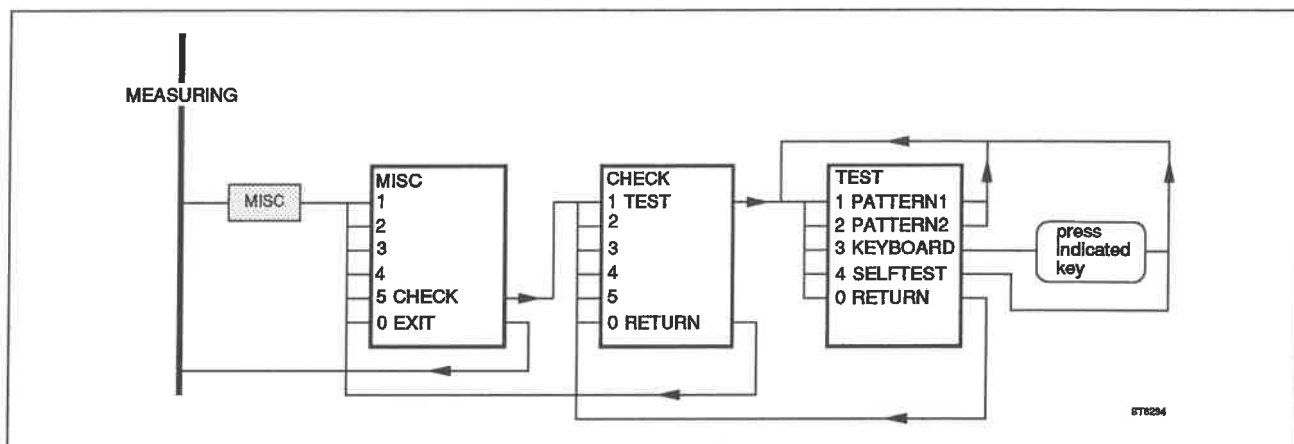

Fig. 6.1 Self Test menu structure.
- press  to invoke the MISC (MISCellaneous functions) menu (Fig. 6.1).